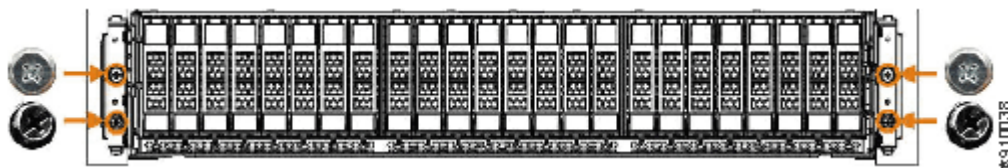

Figure 14. Securing the front of the enclosure
4. Secure the enclosure with screws in the rack mounting screw holes on each side of the enclosure. See Figure 14 on page 16.